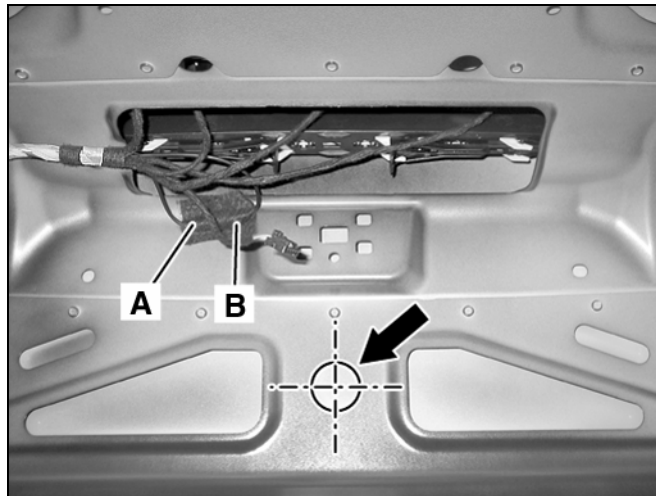

Figure 1
1. Measure and mark (Arrow, Figure 1) the trunk lid underside at the center of the recessed hole in the reinforcement panel.